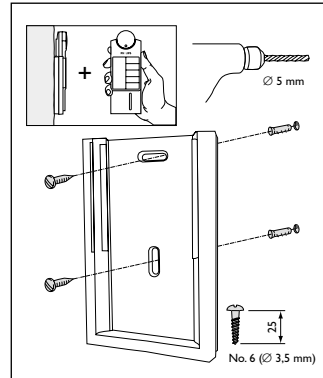

Figure 8a: mounting the wall holder
- Mounting	: with screws or double-sided tape (see figure 8a)
The transmitter can be placed in a wall holder. If necessary the transmitter can be locked in the wall holder. For details see figure 8a and 8b: mounting the transmitter.